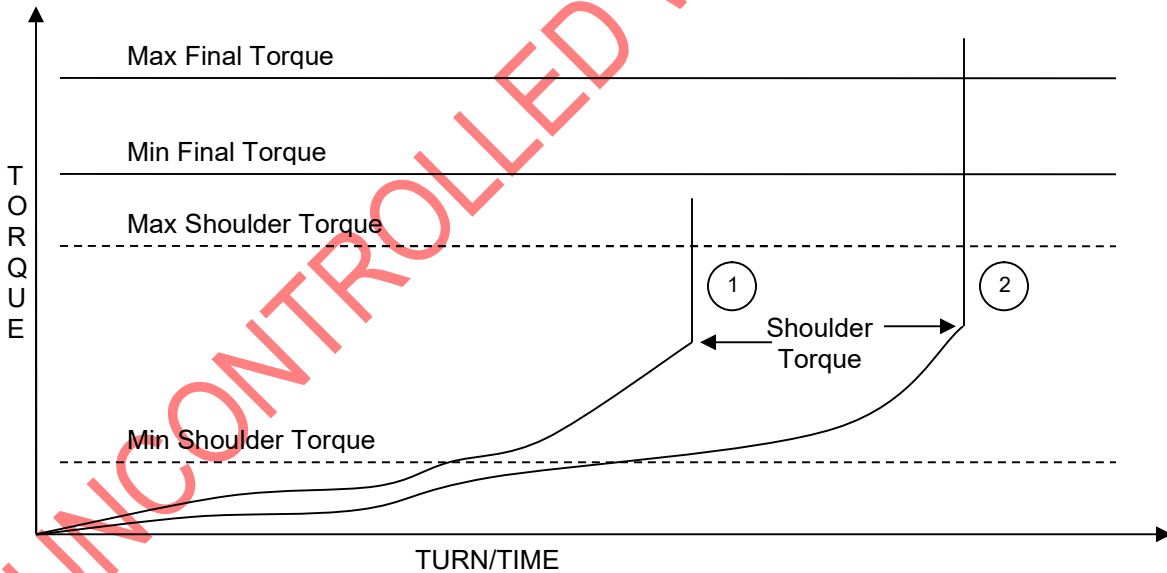

Figure 2: 1. Below Min Final Torque (Breakout and evaluate)
8.1.2.1. Final torque falling outside the final torque maximum and minimum values (figure 2). A connection with this signature shall be broken out, and inspected as outlined in section 7.1.3.